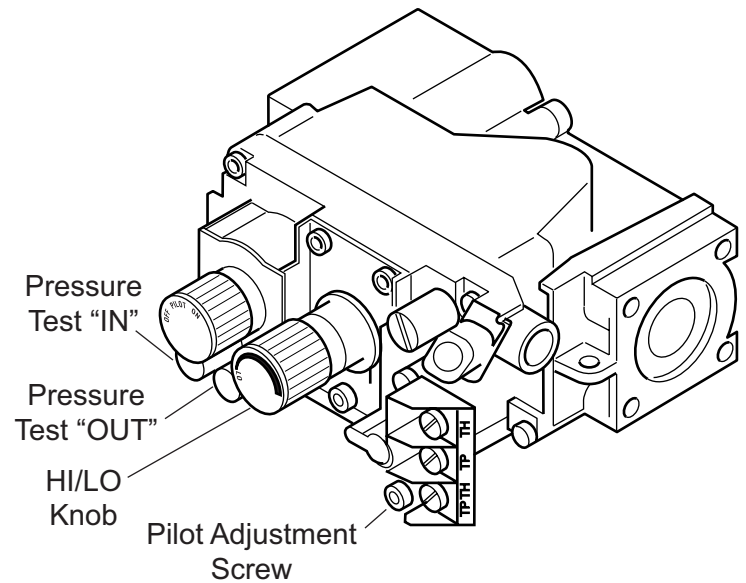

Figure 37 - Gas Pressure Check at Gas Valve
5. To check gas pressures at valve, turn captured screw counter clockwise 2 or 3 turns and then place tubing to pressure gauge over test point. Turn unit to high. See *Figure 37*. After taking pressure reading, be sure and turn captured screw clockwise firmly to reseal. Do not over torque. Check test points for gas leaks.